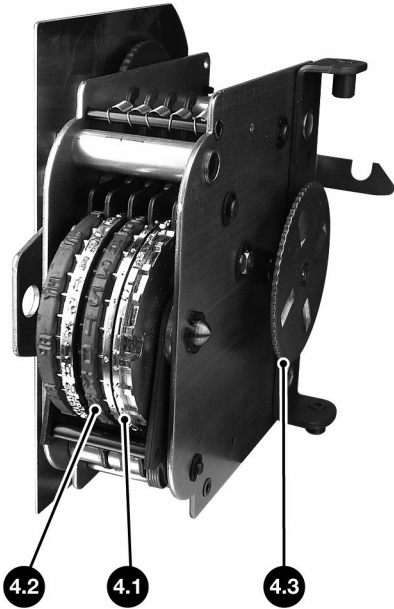

Figure 4
1. Rotate Tenths Wheel (0.9)- **Figure 4, 4.1** until it is set at "9" Rotate the Main Setting - **Figure 4, 4.3** until the Tenths Wheel moves to a "0". (This is the zero minute.)
2. Set the Hour Wheel - **Figure 4, 4.2** to the current Hour.
4. Rotate the Main Setting Wheel - **Figure 4, 4.3** to advance both the Clock Face and Print Wheels together. Rotate until you pass the actual time by one minute (each "click" indicates one minute.)